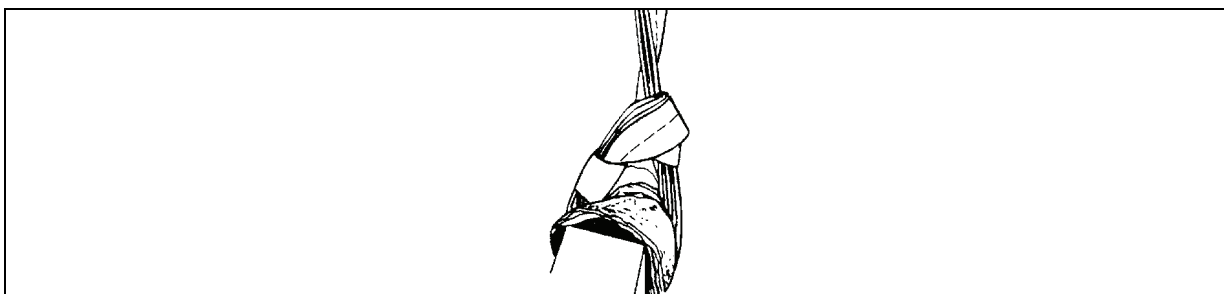

Figure 6-38. Choker Hitch
- A choker hitch (Figure 6-38) connects one end of the sling to a frame member or similar structure on a load. Do not use a choker hitch around an item with a circumference of less than 8 inches or a diameter smaller than 2 1/2 inches. The uneven tension placed on the sling when a choker hitch is used around smaller diameter items, such as a lifting ring, may cause sling failure. The disadvantage of this hitch is that it draws up tightly and is difficult to remove.